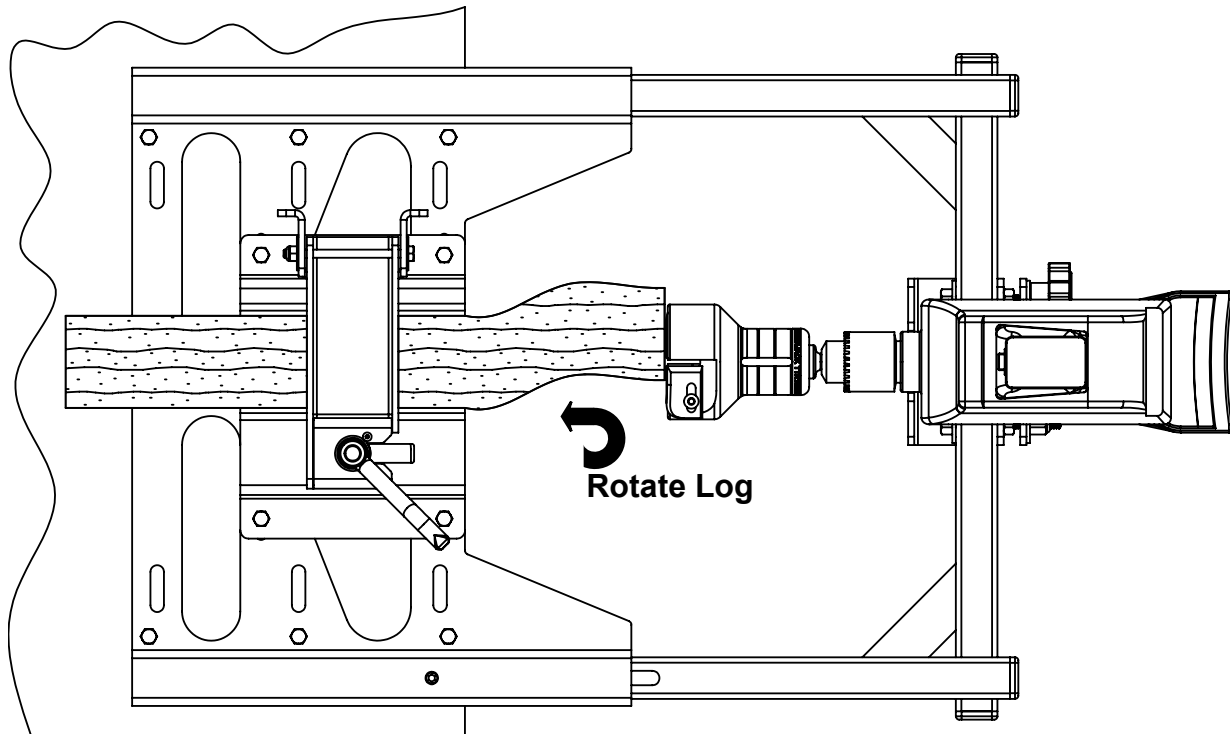

Fig. 14
1. Rotate the log so it is lined up with the drill horizontally as shown in Fig. 14